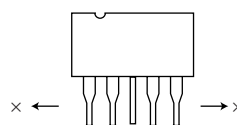

Fig.2
- 2) Ribbon terminal must not be bent to the direction of thicker side as shown in Fig.2.